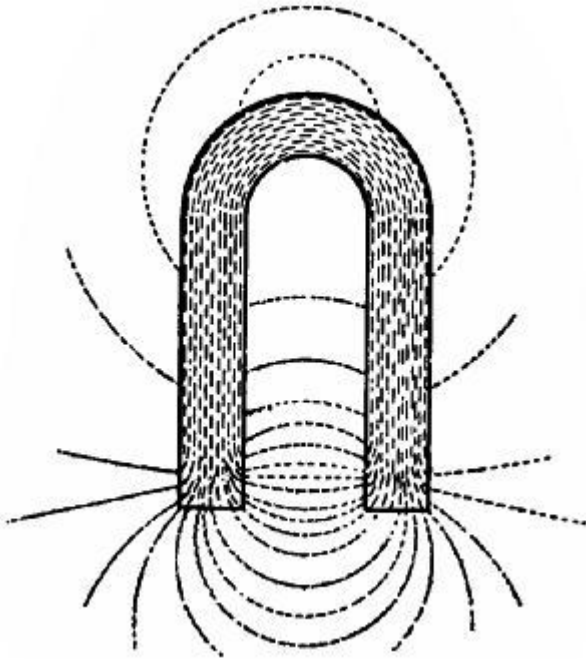

FIG. 50.—Permanent magnet, and the "lines of force" emanating from it.
Magnets are either (1) straight, in which case they are called bar magnets; or (2) of horseshoe form, as in Figs. 50 and 51. By bending the magnet the two poles are brought close together, and the attraction of both may be exercised simultaneously on a bar of steel or iron.
In Fig. 50 are seen a number of dotted lines. These are called *lines of magnetic force*. If you lay a sheet of paper on a horseshoe magnet and sprinkle it with iron dust, you will at once notice how the particles arrange